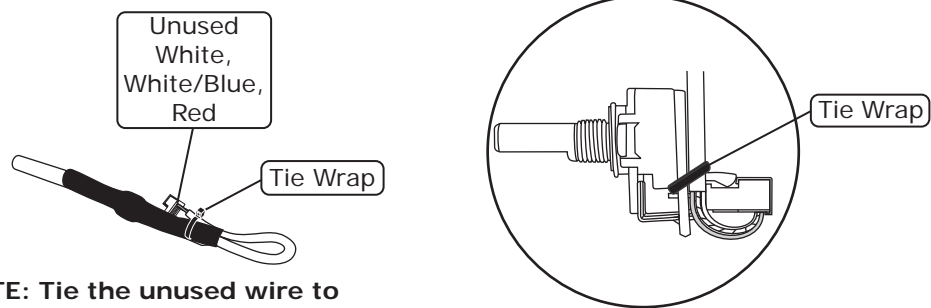

Figure 1a
2. Tie wrap the wires to the rotary pots as shown in Figure 1a, below.